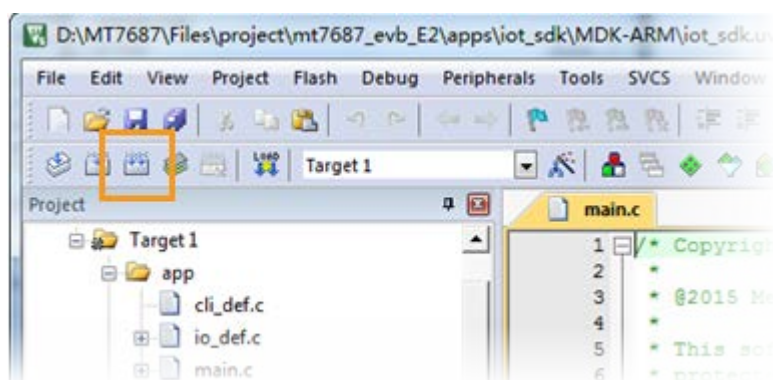

Figure 44. Building the project
- 3) Click **Rebuild** to build the project, as shown in Figure 44.